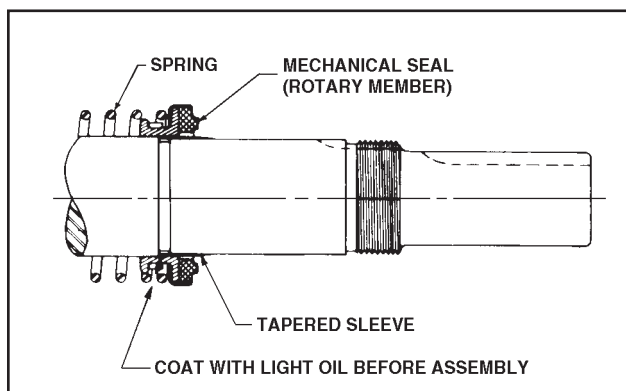

Figure 27
4. Place tapered installation sleeve on shaft. Refer to Figure 27. Sleeve is furnished with GG, AS, AK, and AL replacement mechanical seals. Coat rotor shaft, tapered installation sleeve, and inner diameter of mechanical seal rotary member with a generous amount of refrigeration oil. Petrolatum may be used but grease is not recommended.